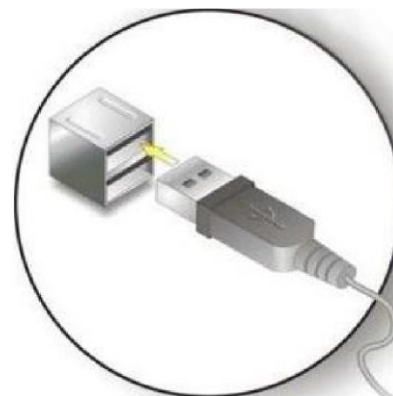

Figure 2-15: USB Device connector
Step 2: Align the connectors. Align the USB device connector with one of the connectors on the bottom panel. Please See Figure 2-15